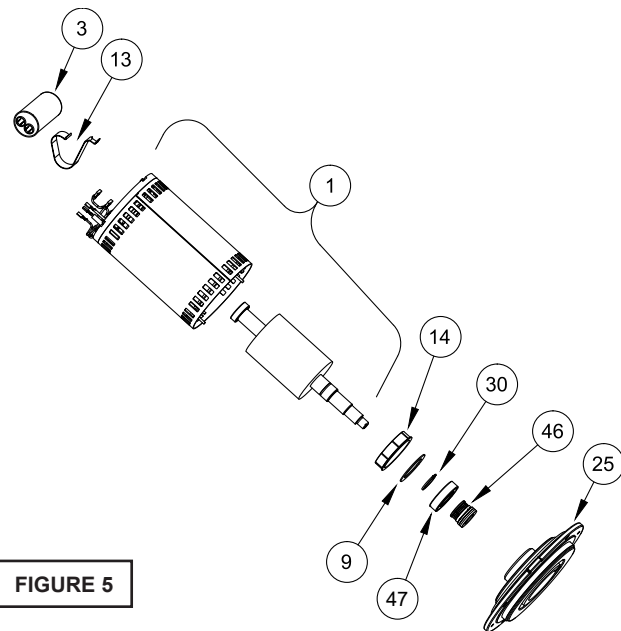

FIGURE 5
**Power** - Refill the cooling oil as outlined in paragraph F-1.4. Make wire connections as outlined in paragraph F-3.3. Insert female end of cord plug into housing bore aligning timing mark with hole in terminal block (27) (see Figure 5). Compress cord plug with compression flange (10a) by tightening cap screws (24) into the motor housing (2). Torque to 132 in-lbs.